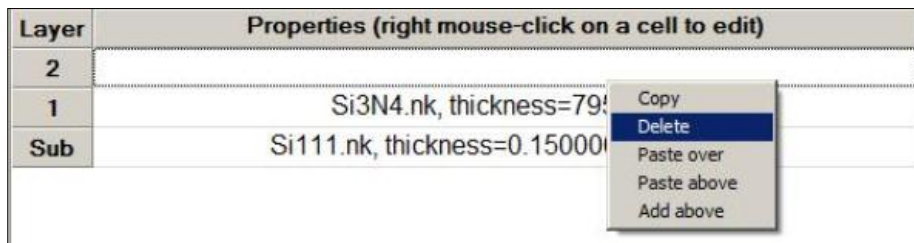

Fig. 121. Layer editing menu
- a. Right click on any layer to bring up the menu shown in Fig. 121, then select *Add Above*. An empty layer (blank row) appears above the current layer.